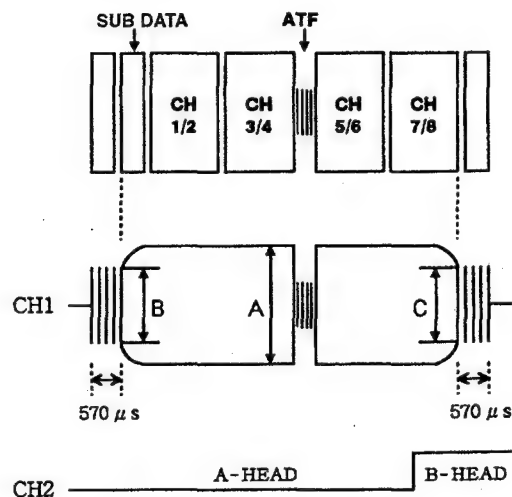

Fig. 2-14
6. Observe the waveform at TP1 (A-HEAD), and see that the following specification is satisfied. (See Fig. 2-14)
**Specification (See Fig. 2-14):**